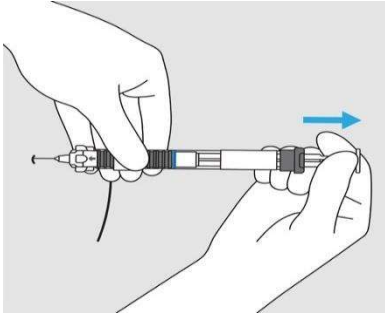

Figure 14: Pull plunger backward to aspirate
4. Once the needle has been inserted, aspirate the needle by pulling the plunger backward for 5–10 seconds. Care should be taken to avoid inadvertent injection into a blood vessel. If blood is visible in the needle barrel, stop the injection and withdraw the needle immediately. (Figure 14)